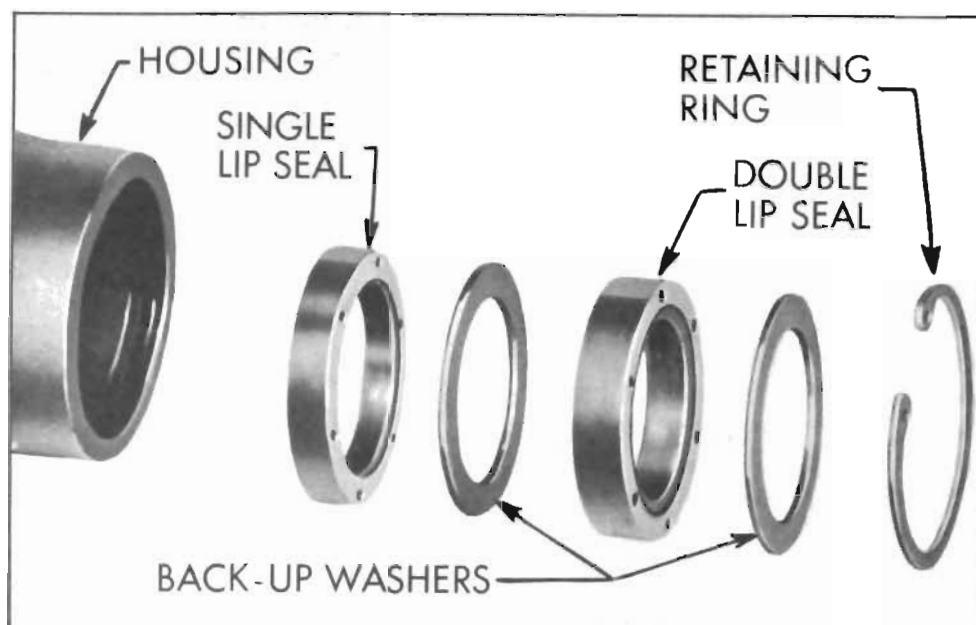
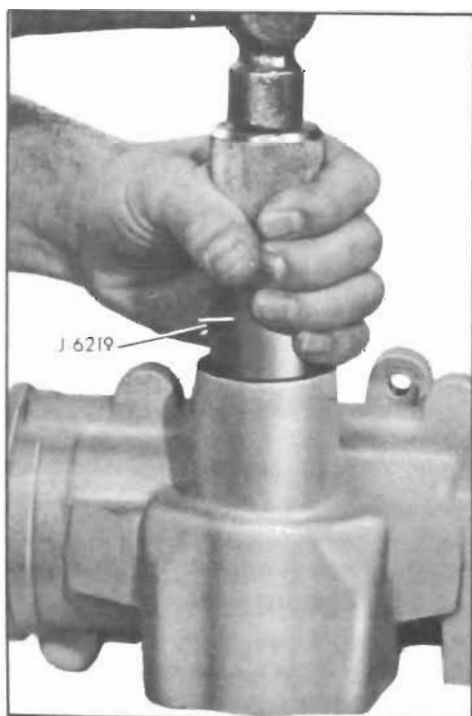

Figure 8-50—Pitman Shaft Seals
Figure 8-51—Installing Pitman Shaft Seals
2. Lubricate new pitman shaft seals in automatic transmission oil. Install the inner, single lip seal in bore first, then a back-up washer. See Figure 8-50. Using Tool J-6219, drive the seal and washer in far enough to provide clearance for the outer seal, back-up washer and retaining ring. See Figure 8-51. The inner seal must not bottom on the